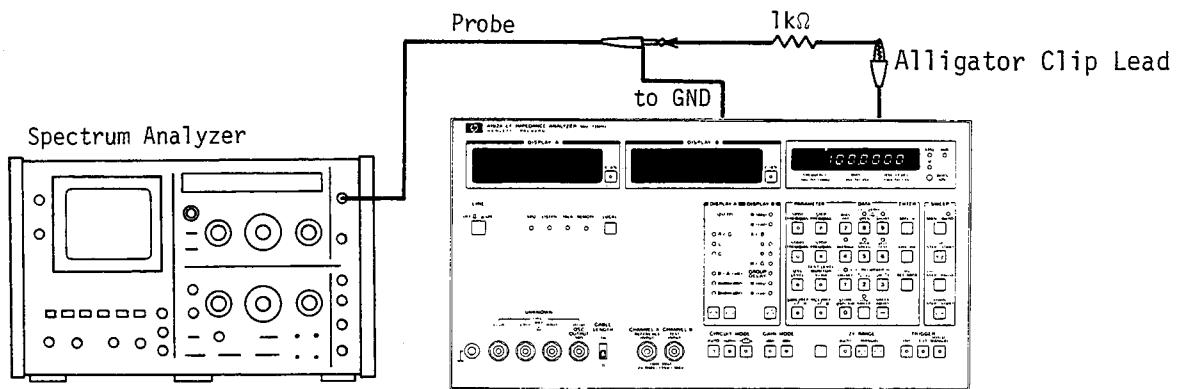

Figure 5-4. A4 API Adjustment Setup.
- Connect the high input of the Spectrum Analyzer to A4TP1 through the 1kΩ resistor and connect the low input to the chassis as shown in Figure 5-4.